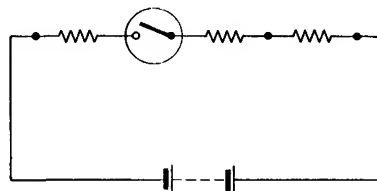

Fig. 2.81 One switch in a series circuit controls the entire circuit
In a series circuit the current must flow through each resistor in turn. This means that everywhere in the circuit the current must be the same. If one switch is placed in the circuit (Fig. 2.81) then this switch controls the whole circuit and it does not matter where it is placed.
1. In Fig. 2.81 the resistances are $30\ \Omega$, $20\ \Omega$ and $50\ \Omega$ respectively. What is the total resistance?